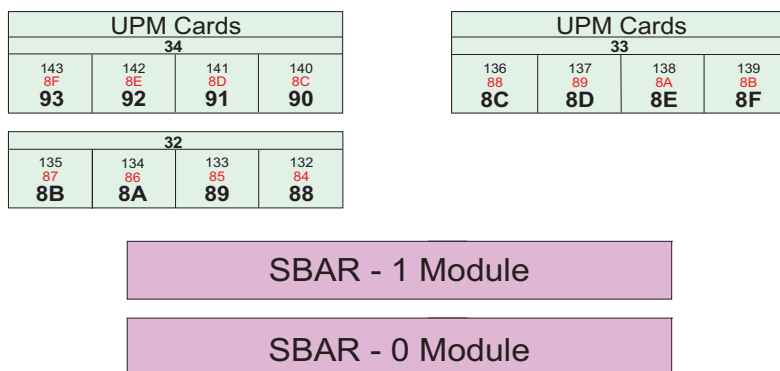

Figure 3-18 Intrepid 6140 Port Numbers and Logical Port Addresses (Rear)
Figure 3-18 illustrates port numbering and logical port addressing for Intrepid 6140 Director ports accessed from the rear.
Although Figure 3-17 and Figure 3-18 depict UPM card maps only for the Intrepid 6140 Director, physical port numbers and logical port addresses can be extrapolated for the Intrepid 6064 Director (64 ports), Sphereon 3232 Fabric Switch (32 ports), Sphereon 4300 Fabric Switch (12 ports), and Sphereon 4500 Fabric Switch (24 ports).
- When a director or switch is set to open systems management style, CUP support and the PDCM array are disabled. For FICON devices attached to the director or switch, the user must manage connectivity to match logical port addressing established through the host-based HCD program. For example if a FICON host expects connectivity through logical port address 1C, the user must ensure the host is connected to physical port number 24. Refer to Figure 3-17 and Figure 3-18 for physical port number and logical port address maps.